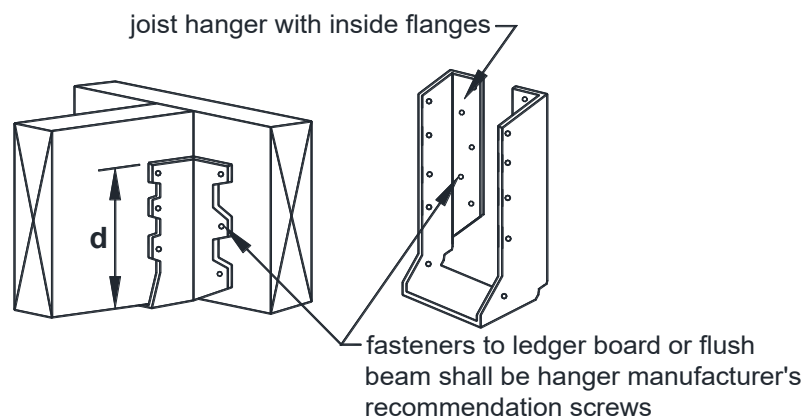

FIGURE 4: JOIST HANGERS
- Joist hanger depth, **d**, as shown in FIGURE 4, shall be greater than or equal to 60 percent of the joist depth.